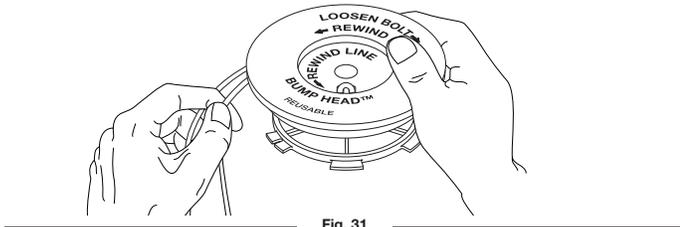

Fig. 31
- Wind the lines in tight even layers, onto the reel (Fig. 31). Wind the line in the direction indicated on the inner reel. Place your index finger between the two lines to stop the lines from over-lapping. Do not overlap the ends of the line. Proceed to step 11.